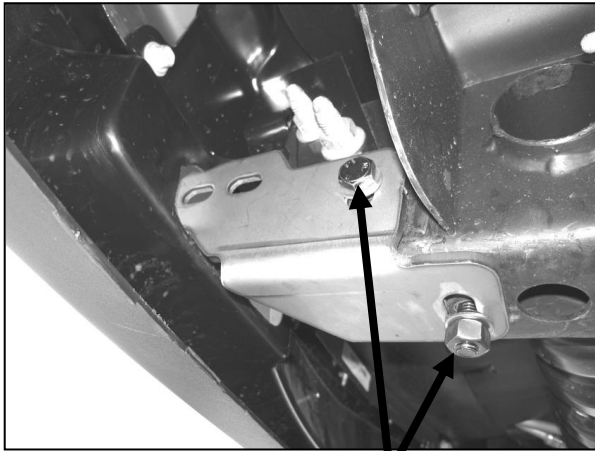

Figure 1
- 4.** Determine driver and passenger Frame Brackets. **NOTE:** Refer to Figure above for bracket configuration. Position driver side Frame Bracket to the outside of the frame rail and secure using the included (2) 12mm x 35mm Hex Head Bolts, (2) 12mm lock Washers, (2) 12mm Hex Nuts, and (4) 12mm Flat Washers (**Figure 1**). Do not tighten at this time.